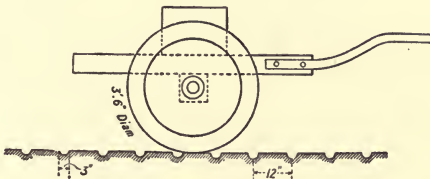

Fig. 3.
3. Fig. 3 represents a hand-cart which is wheeled along a cement pavement having the corrugated form shewn in the section. The total mass of the truck is 300 lbs., the mass of each wheel is 30 lbs., the radius of gyration and diameter of each wheel are  $1\frac{1}{2}$  and  $3\frac{1}{2}$  feet respectively. The truck is wheeled with its platform horizontal at an average speed of 3 feet per sec. Calculate the expenditure of energy necessary to maintain this motion due to the succession of impacts.